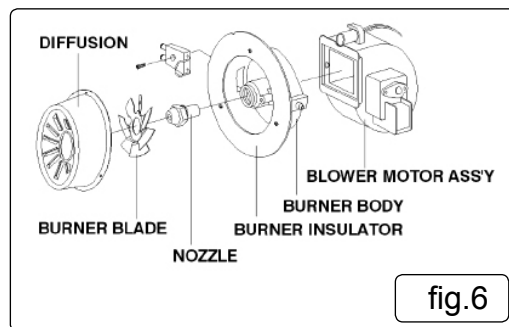

fig.6
6.5.2. To clean dirt from nozzle, blow compressed air through nozzle front. it may be necessary to soak nozzle in clean paraffin or diesel to help loosen any particles fig.6.